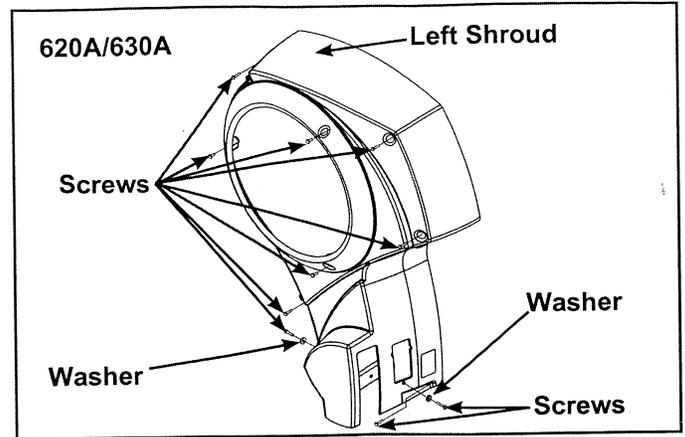

Figure 8
- A. Using a Phillips screwdriver, remove the ten screws and two washers securing left shroud cover in place and remove shroud. See Figure 8.
- A. Using a long Phillips screwdriver, reattach the ten screws and two washers (removed in step 11a) securing left shroud in place. See Figure 8.